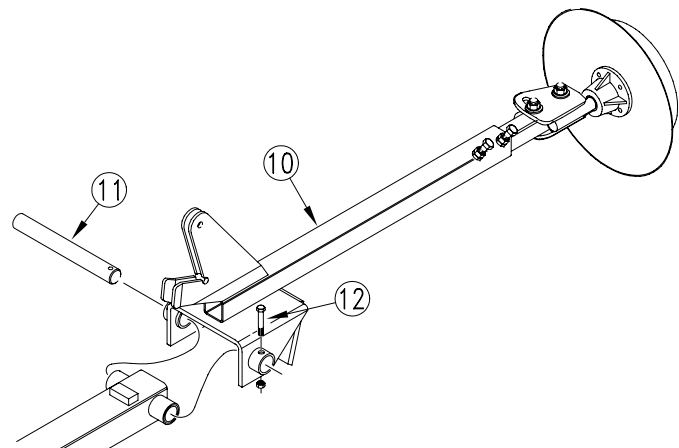

Figure 5
5. Refer to Figure 5. Place third marker section (10) over end of second section and insert hinge pin (11) through second- and third-section pivot. Secure hinge pin with the 1/4 x 2 inch bolt (12) and lock nut.